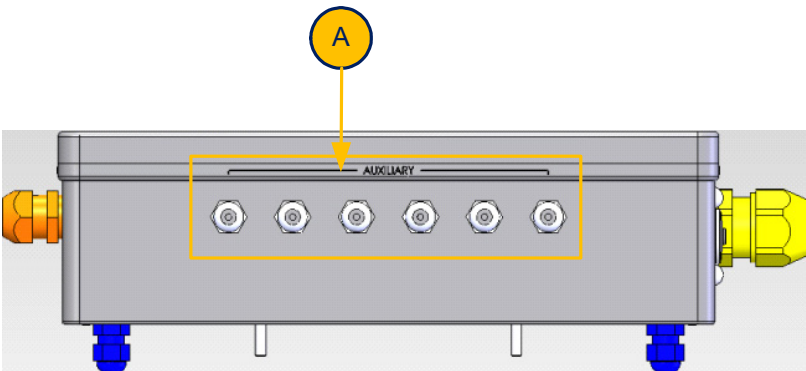

Figure 5-19: Connection box with cable insertion holes (A)
- On one side of the Connection box, there are 6 holes (marked **A** in the diagram **Figure 5-19**, on page **5-58**) to be used to thread these cables, if required.